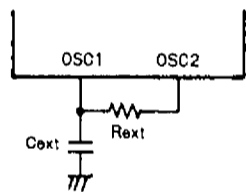

Fig. 2 2-Pin RC Oscillation Circuit
| 2-Pin RC Oscillation   | $C_{ext}$      | OSC1, OSC2: $V_{DD} = 4$ to $5.5V$ , Fig. 2  | 220±5%       |       | pF           |
|  | $R_{ext}$      | OSC1, OSC2: $V_{DD} = 4$ to $5.5V$ , Fig. 2  | 6.8±1%       |       | kΩ           |
|  | $C_{ext}$      | OSC1, OSC2: Fig. 2   | 270±5%       |       | pF           |
|  | $R_{ext}$      | OSC1, OSC2: Fig. 2   | 15±1%        |       | kΩ           |
| 2-Pin RC Oscillation   | $I_{DDOP}$ (1) | Operation mode, Output Nch Tr OFF, Port = $V_{DD}$$V_{DD}$ : $V_{DD} = 4$ to $5.5V$ , Fig. 2$f_{osc} = 750$ kHz typ                              | 2            | 5     | mA           |
|  | $I_{DDOP}$ (2) | $V_{DD}$ : Fig. 2 $f_{osc} = 350$ kHz typ  | 1.5          | 4.5   | mA           |
| Oscillation Frequency                 | f MOSC (1)          | OSC1, OSC2: V DD = 4 to 5.5V, Fig. 2,C ext = 220 pF±5%, R ext = 6.8 kΩ±1%   | 515                        | 750                        | 1156                       | kHz                      |
|                                       | f MOSC (2)          | OSC1, OSC2: Fig. 2,C ext = 270 pF±5%, R ext = 15 kΩ±1%   | 222                        | 350                        | 609                        | kHz                      |